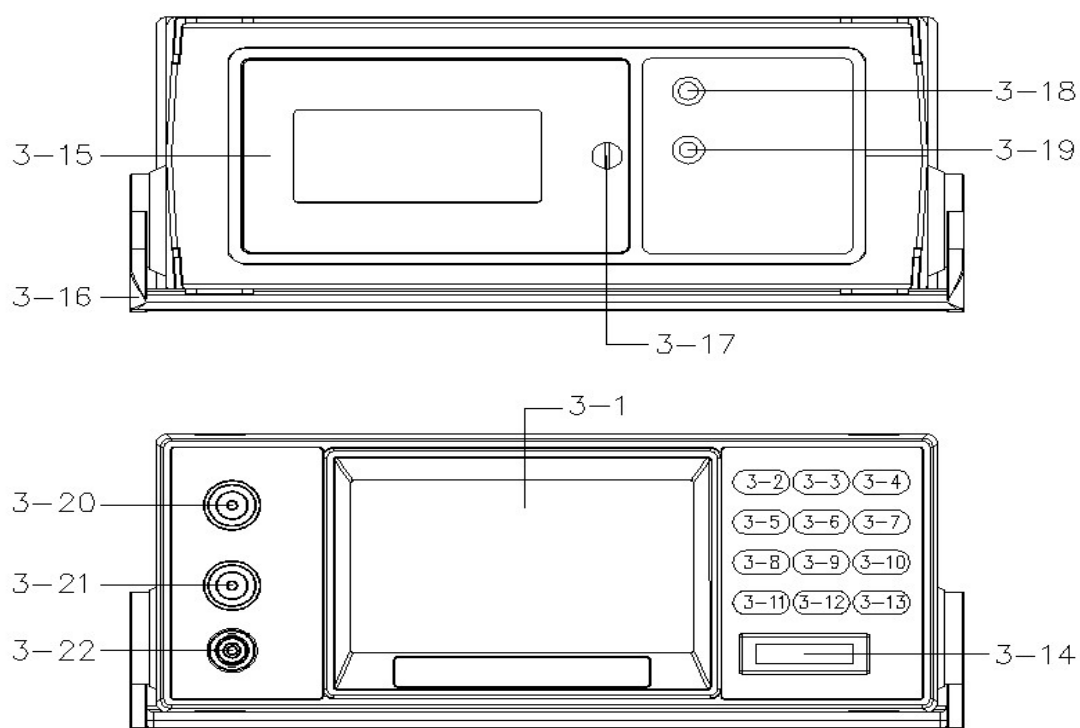

Fig. 1
- 1) Press the POWER/Backlight KEY(3-9, Fig.1) > 2 Sec to turn ON the Frequency counter.
- 2) Press the INPUT KEY(3-5, Fig.1) to select Measurement Range INPUT A(6GHz), INPUT B(1GHz), INPUT C(10MHz).
- 3) When measurement signal is (500M~6GHz), use N Type cable (optional, NN-23), connect to INPUT A N Type terminal(3-20, Fig.1).
- 4) When measurement signal is (10M~1GHz), use N Type cable (optional, NN-23), connect to INPUT B N Type terminal(3-21, Fig.1).
- 5) When measurement signal is (10Hz~10MHz), use BNC Type cable (optional, NB-24 and PB-21 or BB-22), connect to INPUT C BNC Type terminal(3-22, Fig.1).
Press EXIT(0/20dB) KEY(3-11, Fig.1) > 2 Sec. attenuator will show 20dB(low sensitivity), again press EXIT(0/20dB) KEY(3-11, Fig.1) > 2 Sec. will back 0 dB (high sensitivity).
- 7) In different input range, press RESO KEY(3-7, Fig.1), to select want resolution, according to different resolution, sampling time will also be different, as table 2-2. Table for Gate Time & Resolution.
- 1) Short Press HOLD KEY(3-12, Fig.1), LCD will show HOLD text and measure value will be hold.
- 2) Short Press again HOLD KEY(3-12, Fig.1), HOLD Function will be release.
- 1) Press and hold FREQ/REL KEY(3-2, Fig.1) > 2 SEC. LCD will show REL text, and memory measure value (regarded as old value), and measure value regarded as 0 (LCD will show 0 value).
- 3) Press FREQ/REL KEY(3-2, Fig.1) > 2 SEC. LCD REL text, and measure value will be release.
- 1) Short Press REC/LOG KEY(3-6, Fig.1), LCD will show REC text, and into REC Function measure.
- 2) Short Press again REC/LOG KEY(3-6, Fig.1), LCD will show REC Max. text, and REC Max. value.
- 3) Short Press again REC/LOG KEY(3-6, Fig.1), LCD will show REC Min. text, and REC Min. value.
- 4) Short Press again REC/LOG KEY(3-6, Fig.1), LCD will show REC Ave. text, and REC Ave. value.
- 5) Press and hold REC/LOG KEY(3-6, Fig.1) > 2 sec., will release Data Record Function.
- 1) Select to (10Hz-10MHz) range, frequency signal input to C (BNC) , (3-22, Fig.1) terminal.
- 2) Press Period KEY(3-3, Fig.1), into Period function measurement.
- 2) Short press WIDTH/DUTY KEY(3-4, Fig.1), into square wave (10Hz to 100 KHz) width measure Press and hold WIDTH/DUTY KEY(3-4, Fig.1) > 2 sec. , into square wave duty function measurement.
- 3) Short press WIDTH/DUTY KEY(3-4, Fig.1), back to width measure function.
- 1) SD Card into SD Card socket (3-14, Fig.1).
- 4) Press and hold REC/LOG KEY(3-6, Fig.1) > 2 SEC., into data recorder function.
- 5) Again press REC/LOG KEY(3-6, Fig.1) KEY > 2 SEC., quit data recorder function.
can use the "Backlight Button " (3-9, Fig. 1) select Hi or Low brightness
- 1) Press ENTER/SETUP KEY(3-13, Fig 1) > 2 SEC.,into setting function.
- 2) Use ▲(3-8, Fig 1) 、▼(3-10, Fig 1) KEY, select to **Folder Name** position,then short press ENTER/SETUP KEY into FCA01 ~ FCA10 position.